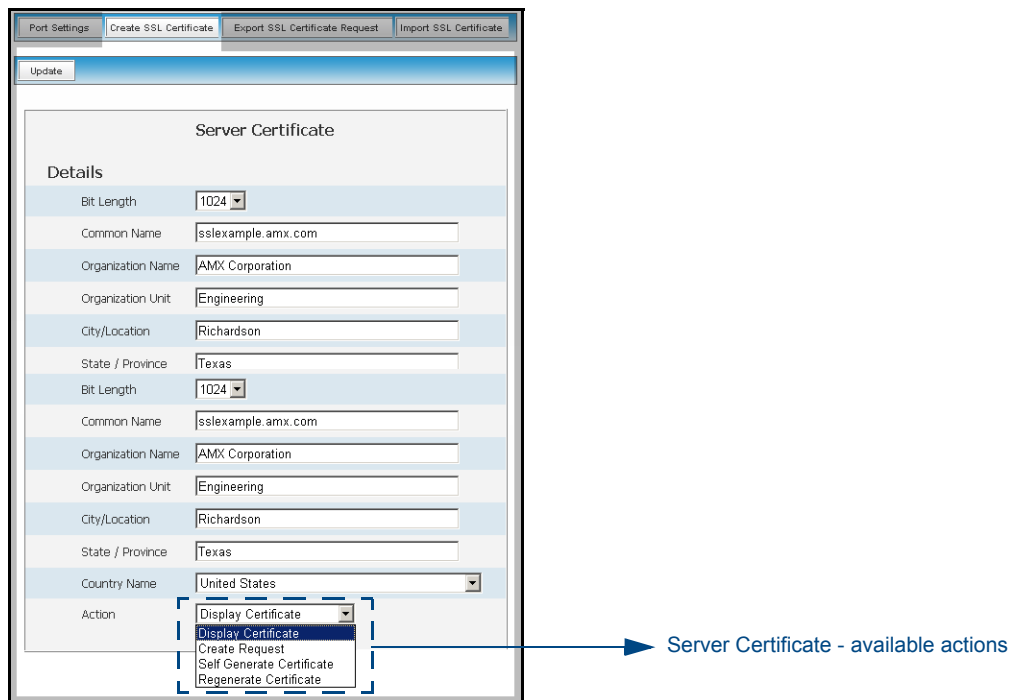

FIG. 49 Create an SSL Certificate dialog
1. Navigate to the Server Certificate page by clicking **System Settings > Manage System > Server > Create SSL Certificate** to open the Server Certificate page (FIG. 49).